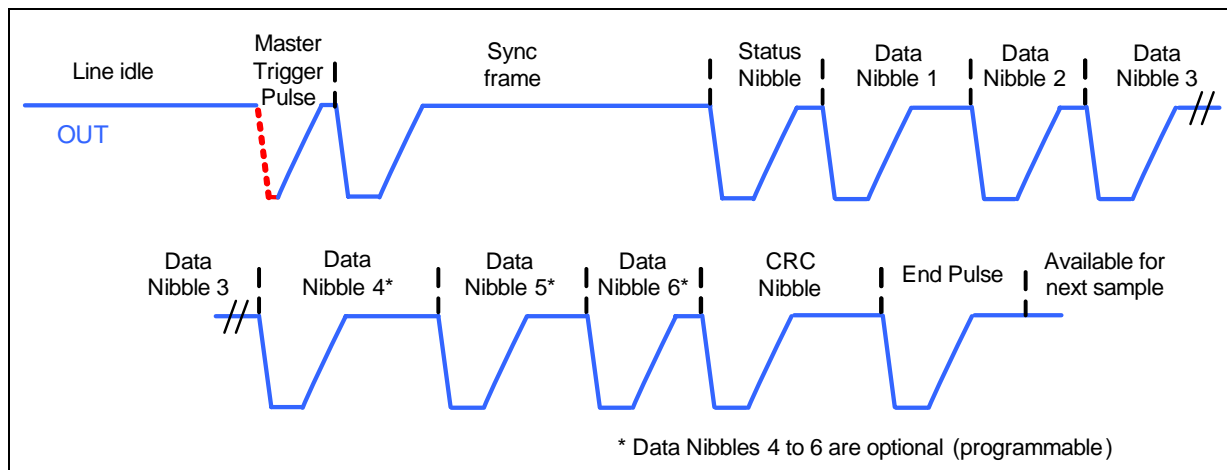

Figure 13 SPC Frame
As in SENT, the time between two consecutive falling edges defines the value of a four bit nibble, thus representing numbers between 0 and 15. The transmission time therefore depends on the transmitted data values. The single edge is defined by a 3 unit time (UT) low pulse on the output, followed by the high time defined in the protocol (nominal values, may vary by tolerance of internal RC oscillator, not including analog delay of the open drain output and influence by external circuitry, unit time programming see Section 13.2). All values are multiples of a unit time frame concept. A transfer consists of the following parts, depicted in Figure 13:
In the “synchronous” mode, the sensor (slave) starts to transfer a complete data frame only after a low pulse is forced by the master on the OUT pin. This means that the data line is bidirectional - an open drain output of the microcontroller (master) sends the trigger pulse. The sensor then initiates a sync pulse and starts to calculate the new output data value. After the synchronization period, the data follows in form of a standard SENT frame, starting with the status, data and CRC nibbles. At the end, an end pulse allows the CRC nibble decoding and indicates that the data line is idle again. The timing diagram in Figure 13 visualizes a synchronous transmission.